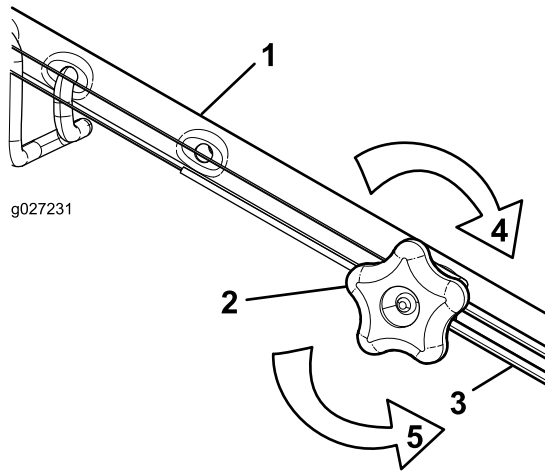

Figure 31
1. Turn the adjustment knob counterclockwise to loosen the cable adjustment (Figure 31).
2. Adjust the tension on the cable (Figure 31) by pulling it back or pushing it forward and holding that position.